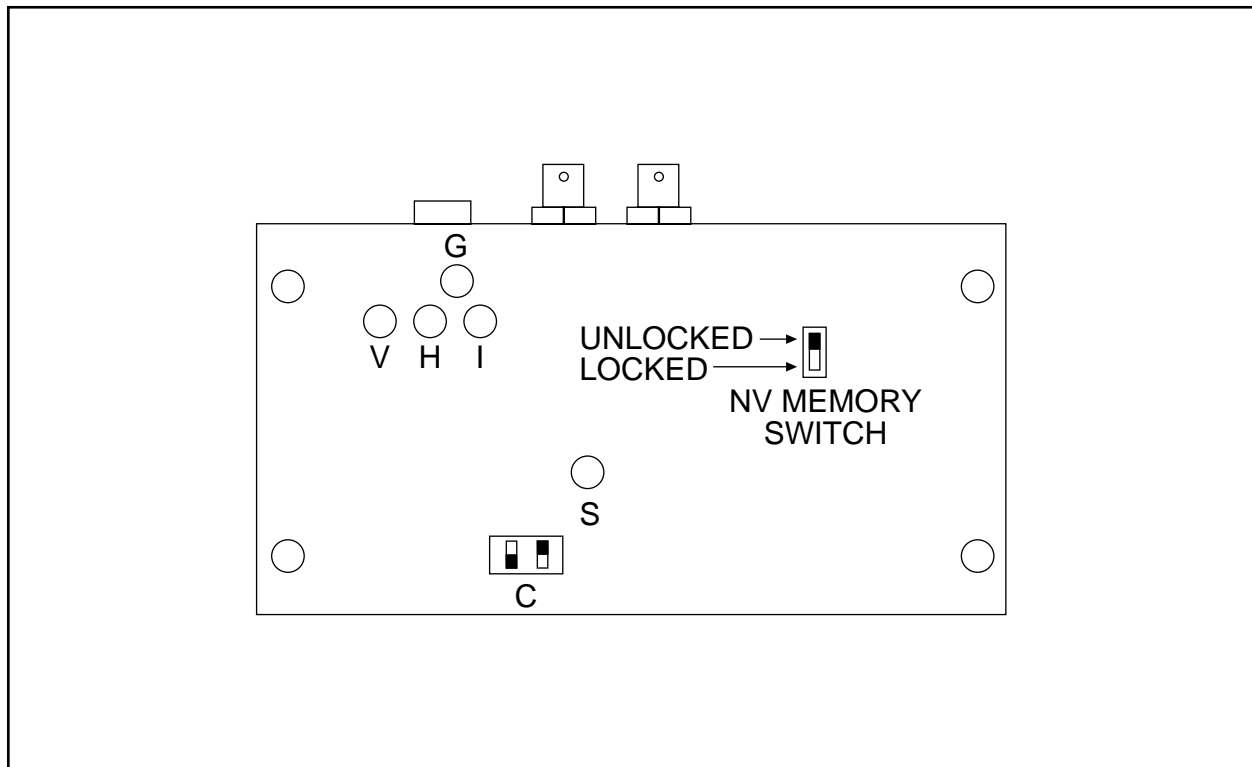

Figure 5. Video Adjustment Locations
All video adjustments are located on the bottom of the Inter-Check unit (refer to Figure 5). Using a non-metallic screwdriver, make any necessary adjustments as follows:
Your new Inter-Check ICI1000S Series incorporates a Non-Volatile (NV) type memory. This type of memory does not require a battery to operate. Refer to Figure 5 for the location of this switch and note the locked and unlocked positions. This switch must be positioned in the UNLOCKED position if you intend on programming the Inter-Check ICI1000S Series unit. If the switch is in the LOCKED position and you try to enter programming data, an “ERROR IN WRITING NV MEMORY !!!” warning will be displayed on the monitor screen. To allow programming, simply position the write protect switch to the UNLOCKED position. When programming is complete, position the switch to the LOCKED position. This will protect your programming from possible errors that may occur during AC power fluctuations or complete Inter-Check ICI1000S Series power loss.